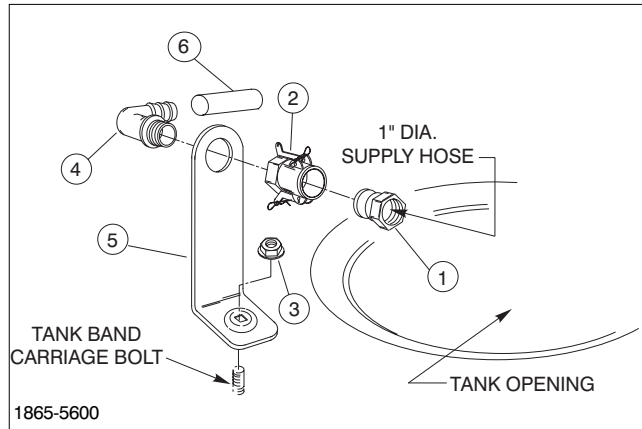

FIG. 19
2. Install the Anti-Siphon Bracket on the Tank Band Carriage Bolt using one (1) 5/16" Flange Nut provided in the Parts Bag. (See FIG. 19)
3. Place the threaded end of the Elbow-Barb through the hole in the top of the Anti-Siphon Bracket and attach the Quick Coupler (See FIG. 19). Do not tighten completely at this time.